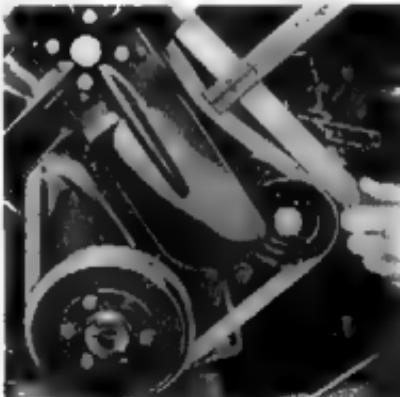

Fig. 41—Fan Belt Adjustment
The fan belt tension should be checked occasionally and, if necessary, adjusted to provide  $\frac{3}{8}$ " up or down movement from normal position at a point midway between fan and generator pulleys (fig. 41).
4. Pull the generator away from engine to tighten the belt. Tighten the brace to generator clamp bolt and check for  $\frac{3}{4}$ " total up or down movement of belt at a point midway between water pump and generator pulleys (fig. 41). If necessary loosen clamp bolt and move generator slightly to obtain desired belt tension then tighten generator attaching bolts.